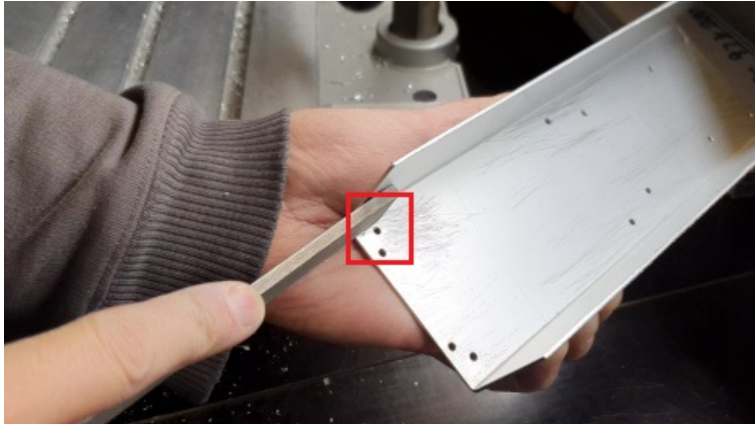

Figure 3.22: Make the housing base conductive
1. File the bottom of the **base** (only the part where the red framed hole is) so that the grounding contact faces well. This operation is not necessary if you are using non anodized sheets (anodized surfaces are none-conductive). See Figure 3.22, page 120.